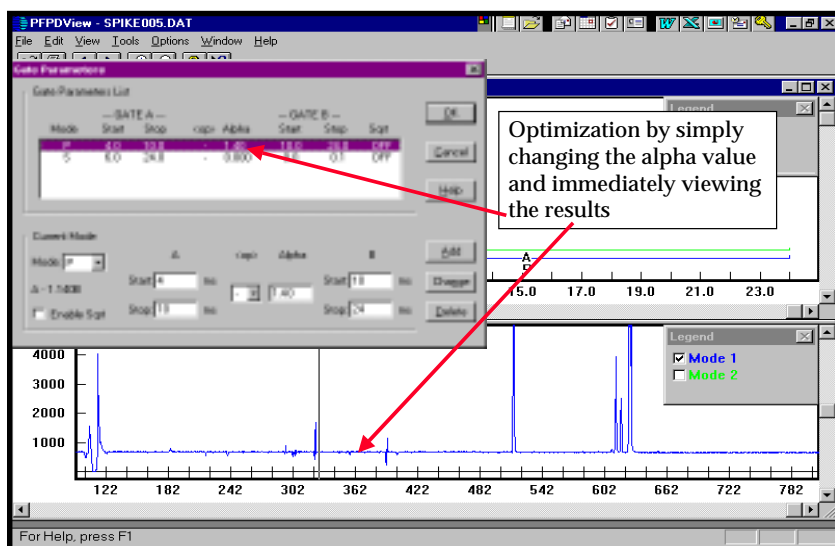

Figure 4.3. Post-Run Optimization of Gate Alpha Values
3. Click on **OK**. The chromatogram will be recalculated and displayed using the new gate parameters. (See Figure 4.3.)